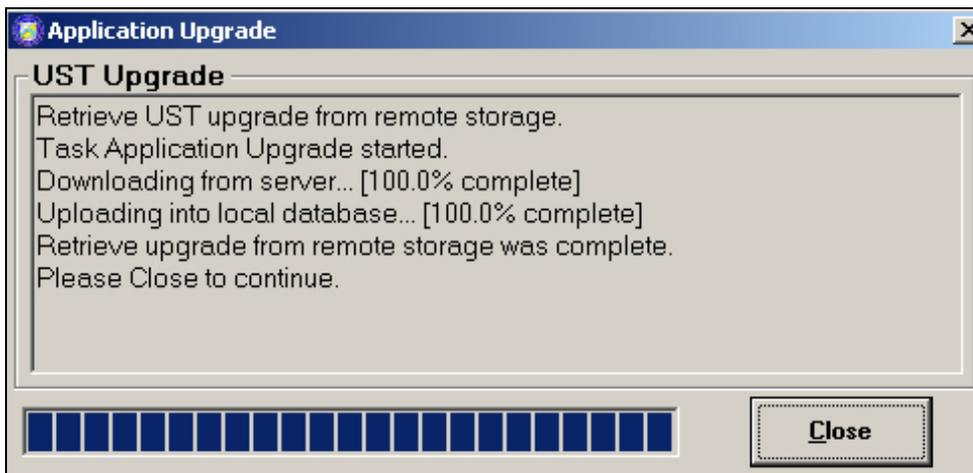

Figure 6.10.3
1. The PCC OTC Application Upgrade information window opens (Figure 6.10.3).